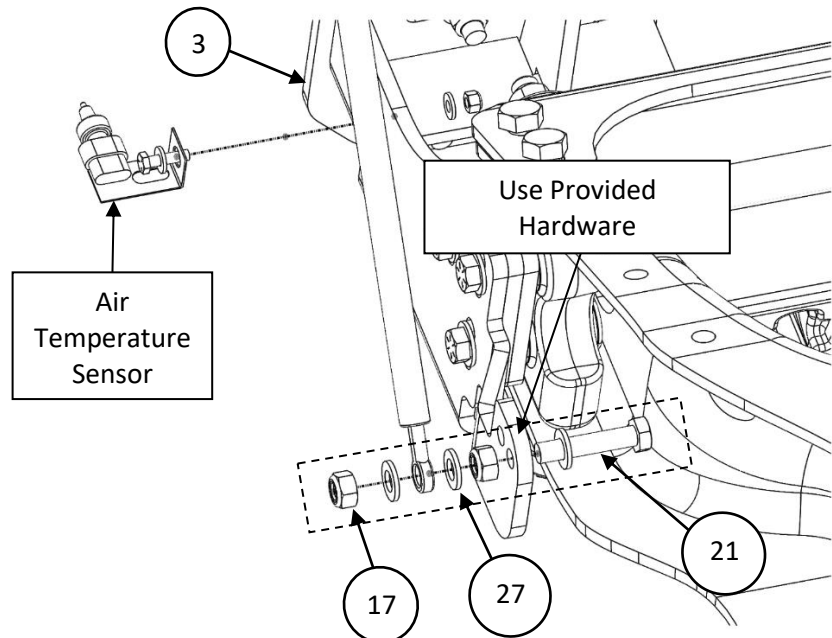

Figure 9b – Typical Narrow Rad. Trucks Air Temperature Sensor and Hood Strut Reinstallation (Driver Side Shown).
b) Typical of narrow rad trucks, Install previously removed air temperature sensor onto Herd submount (Item 3). Reattach hood struts to Herd submount's rear hole on both driver side and passenger side, using provided hardware. The hood strut must be spaced out with one of the nuts provided as shown in Figure 9b.